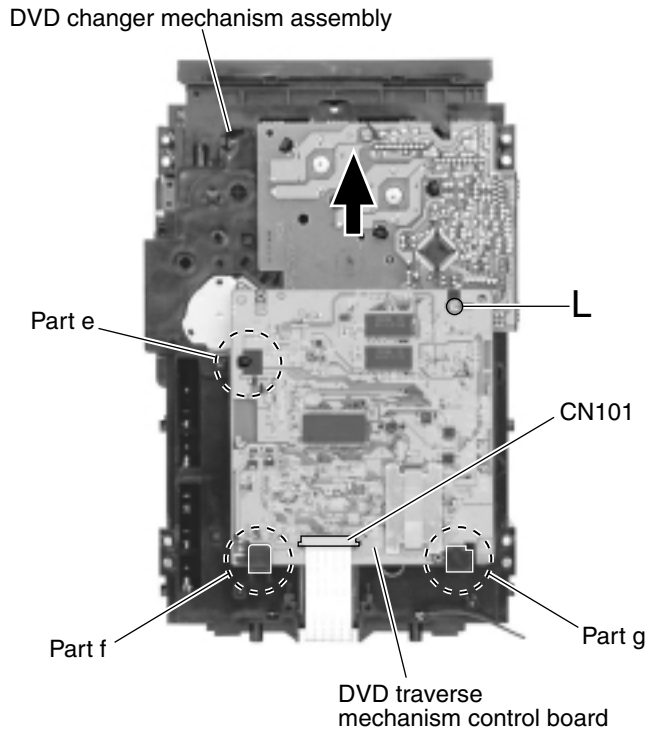

Fig.17
**■ Removing the traverse mechanism control board (See Fig.17)**